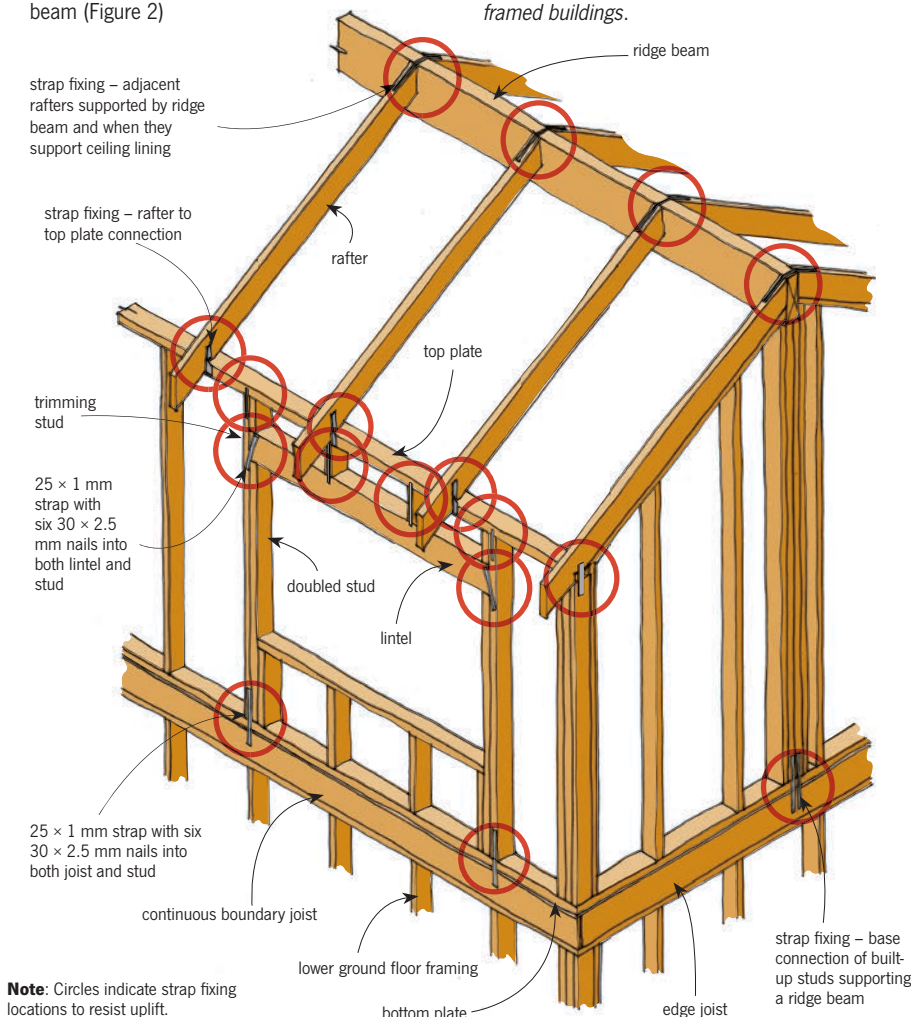

Figure 2. Framing locations requiring strap fixing.
- at the base of built-up studs supporting a ridge beam (Figure 2)